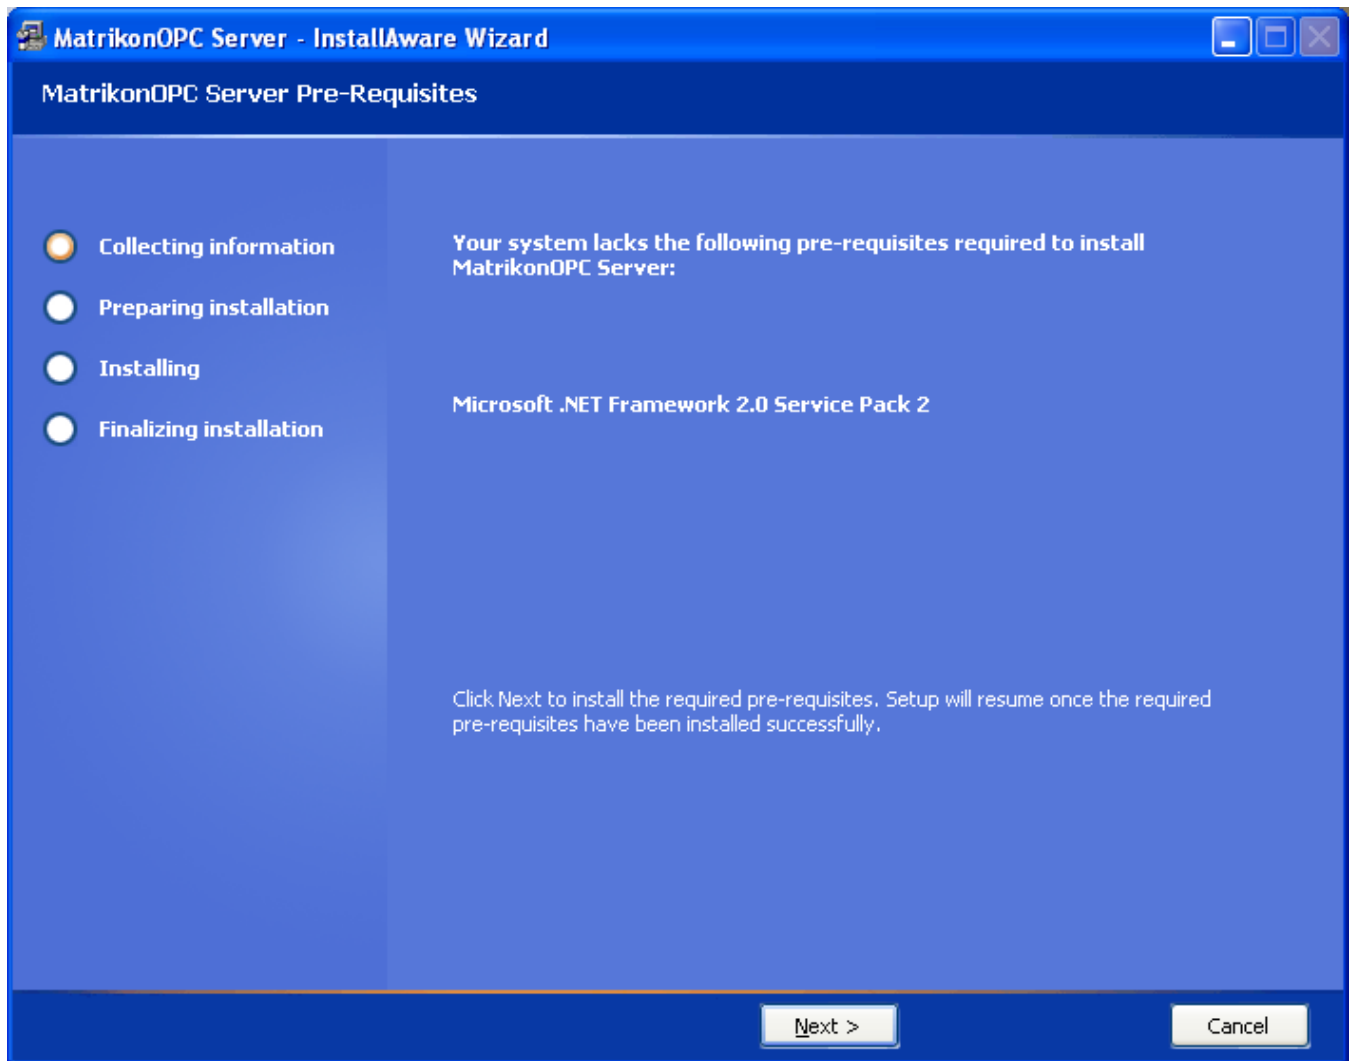
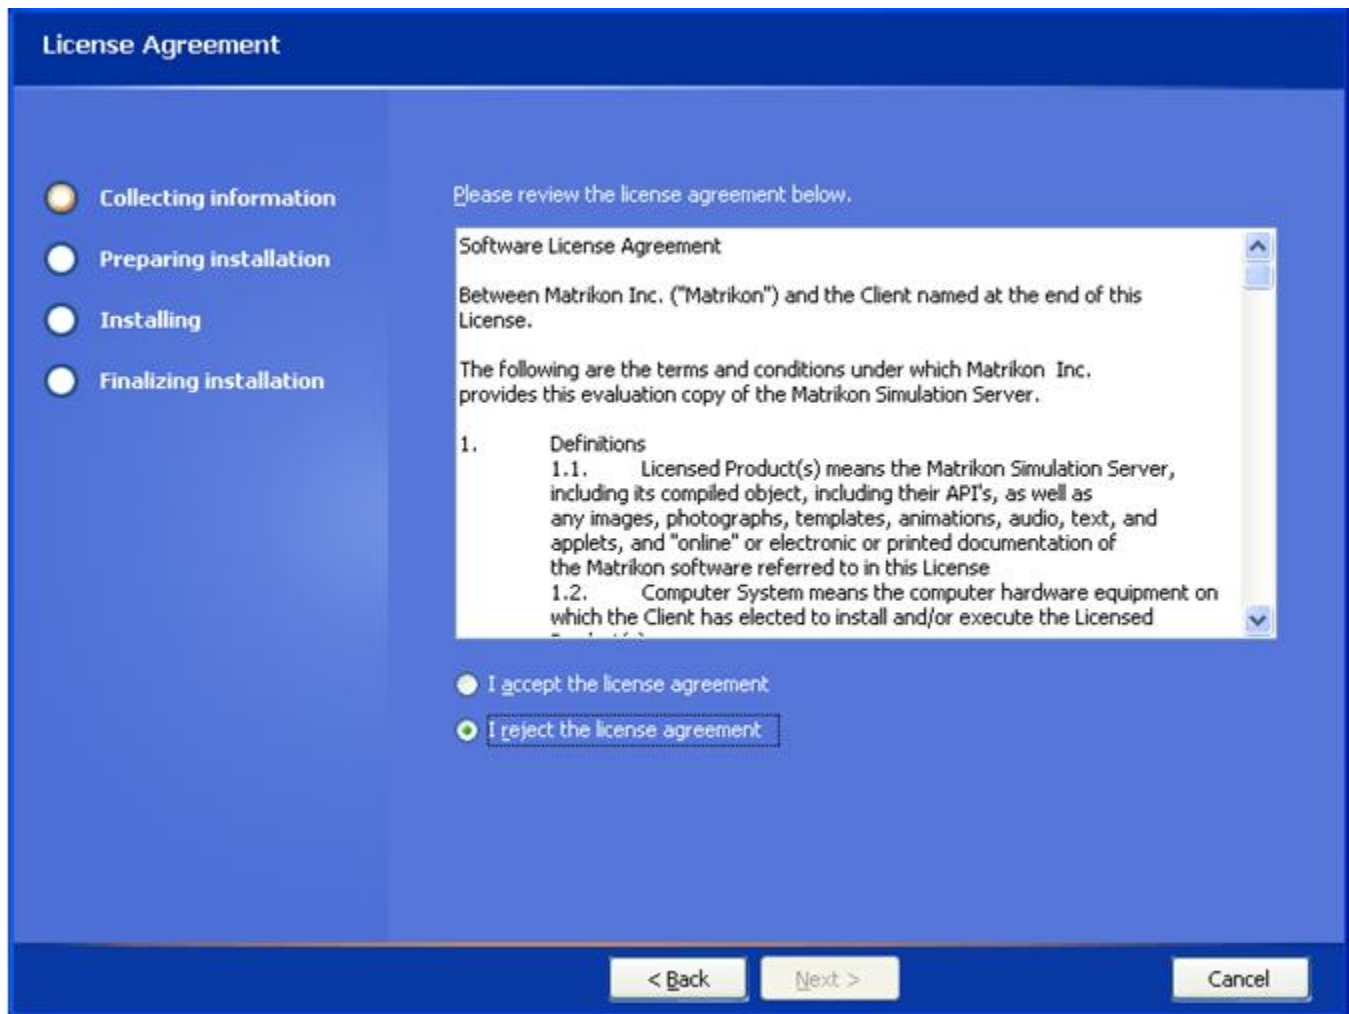

Figure 68 - Pre-Requisites Screen
Figure 69 - License Agreement Screen
3. Either a **Pre-Requisites** screen (Figure 68) appears, or you are taken directly to the **Licensing Agreement** (Figure 69) screen. If the **Licensing Agreement** screen is the displayed screen, go to step 5.
5. After all pre-requisites have been installed, the **License Agreement** screen (Figure 69) appears.